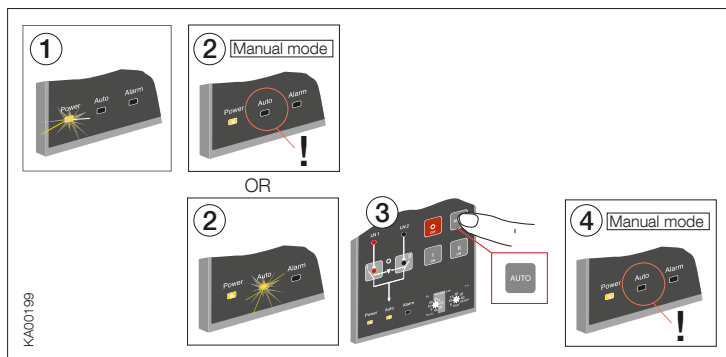

Figure 6.1 Selecting the automatic control unit OMD\_ to Manual Mode
- Make sure that the power LED is ON, see the Figure 6.1/①.
- If the Auto LED is OFF /②, the automatic control unit is in Manual Mode.
- If the Auto LED is ON, push the Auto key once /③. The Auto LED switches to OFF and the automatic control unit OMD\_ is in Manual Mode /④.